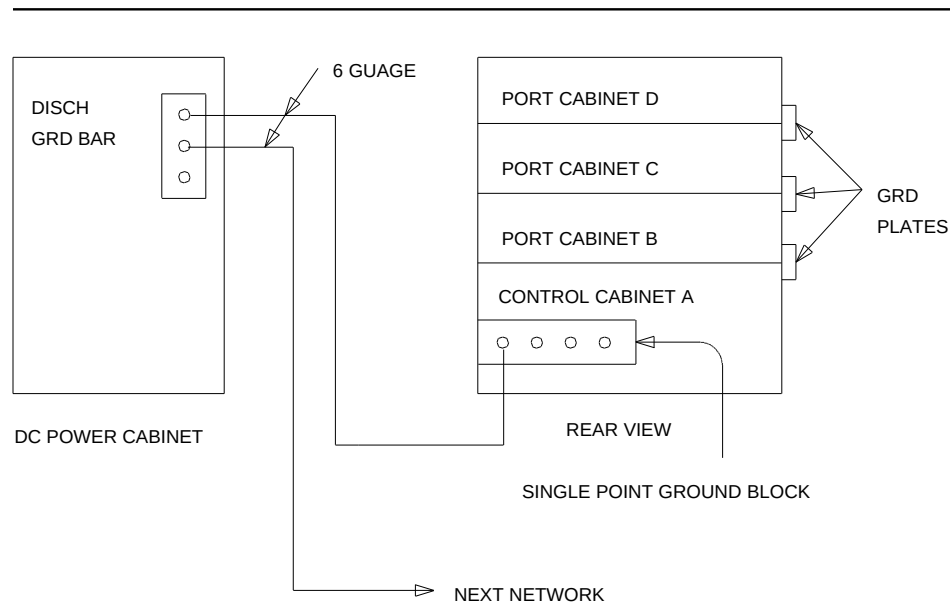

Figure 4-22. Ground Connection for Single-Carrier Network
1. At the DC Power Cabinet, connect a 6 AWG cable to the **DISCH GRD** bar. Route the cable to the DC Power Distribution Unit. Connect the cable to the single-point ground block in the Control Carrier (see Figure 4-22).